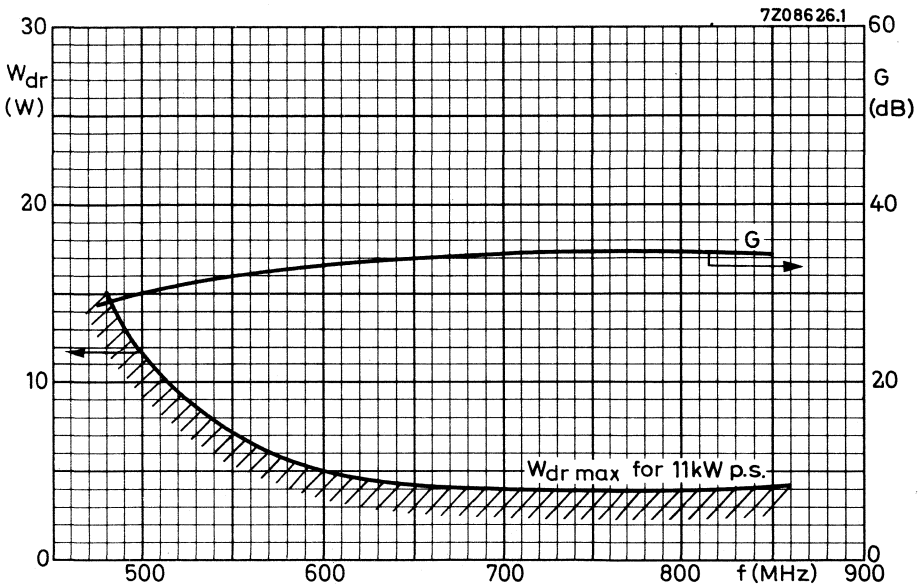

Fig. 9.
4. Dependent on operating frequency, see Fig. 9.